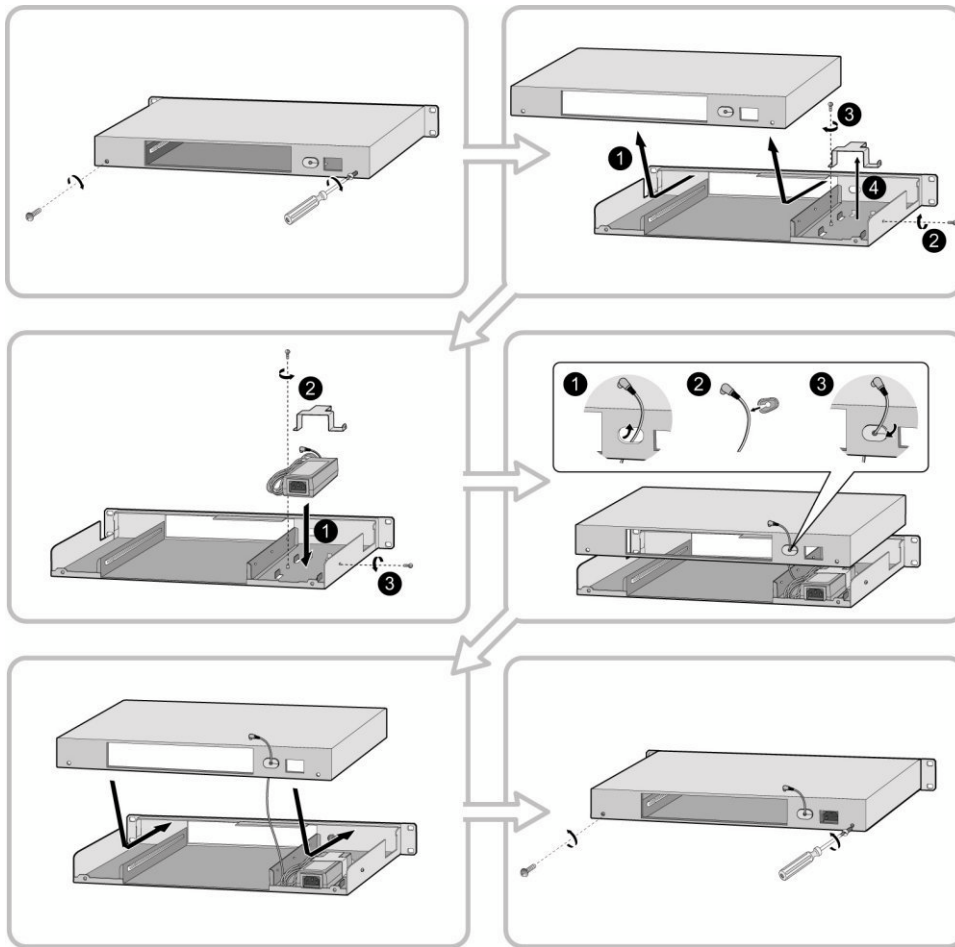

Figure 4.3.3-1 1URMB Adapter Installation
2. Install LIK-MFIM50A/B Module into the 1U-RMB and connect the adapter plug, refer to Figure 4.3.3-2.